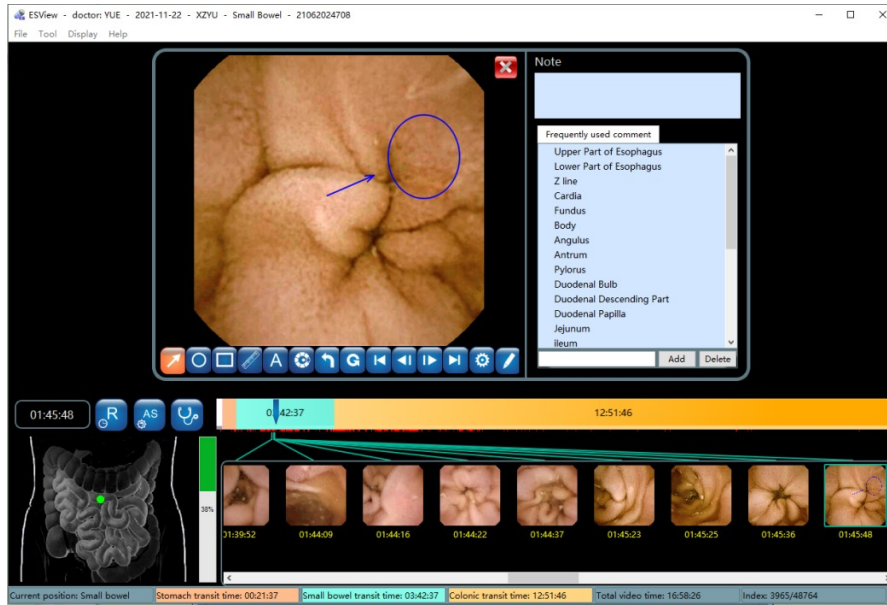
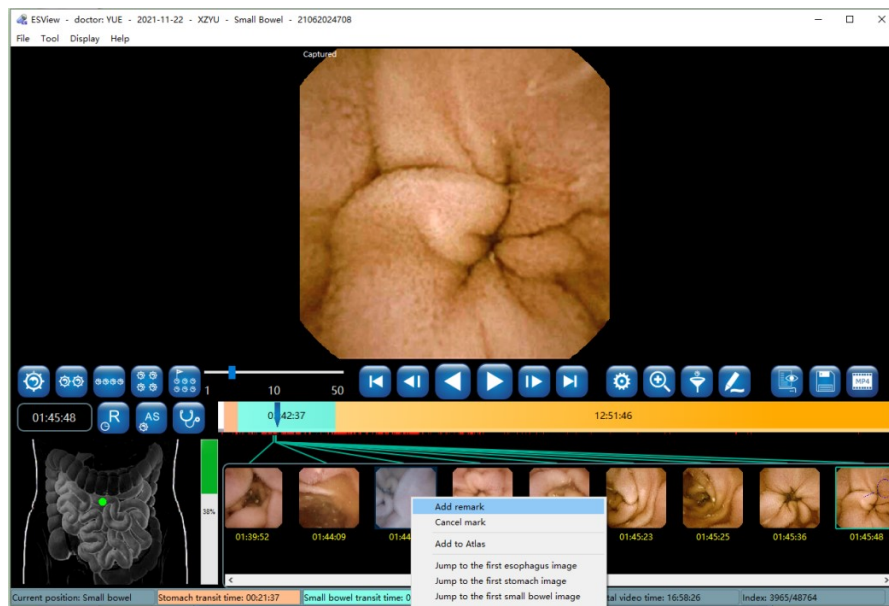

Figure 4-26: Add Remark Interface
Figure 4-29: Add Remark to Thumbnail
4. Click  to access the add comment interface (Figure 4-26). The user can enter textual descriptions to the image into the comment text box in two ways:
2. In the thumbnail display area, move the mouse over the image to add remark to and right click on the image, then select “Add remark” in the pop-up menu (Figure 4-29) to add remark to the corresponding image using the add remark interface shown in Figure 4-26.